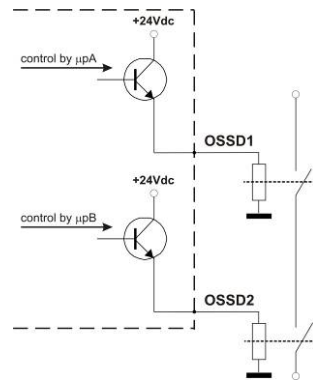
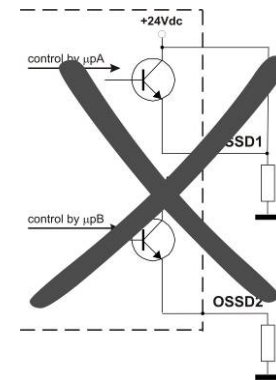

Fig. 16
Fig. 17
- Under no circumstances should safety outputs OSSD1 and OSSD2 be wired in series or in parallel (Fig. 17, 18, 19); both must be used separately, as shown in Fig. 16. Should one of these two configurations be used in error, a malfunction will occur (see Ch. 7, "Diagnostic function").